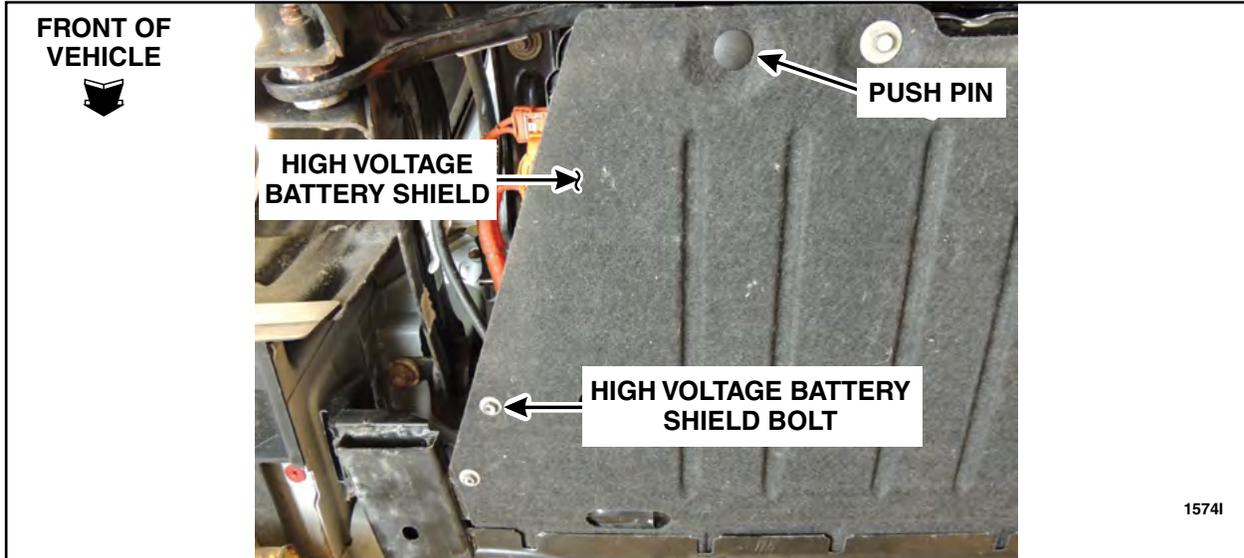

FIGURE 10
4. Remove the high voltage battery shield bolt and push pin. See Figure 10.